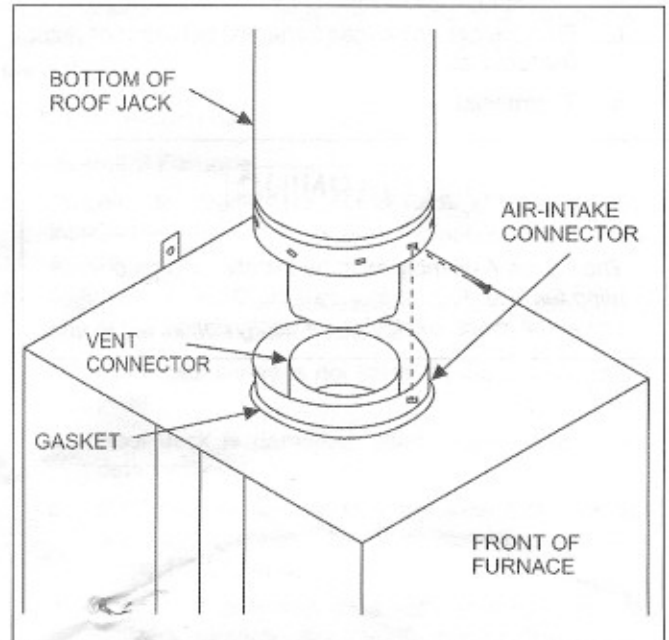

FIGURE 3 - Roof Jack Attachment to Furnace
3. Pull the Roof Jack's telescoping section down onto furnace. Fully engage Roof Jack onto Vent Connector and Air-Intake Connector and compress gasket. See Figure 3. Refer to Interior Roof Jack Extension installation instructions, if applicable.